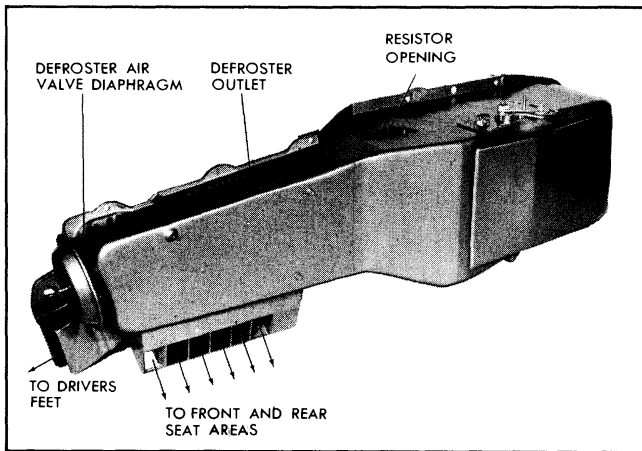

Fig. 12-8 Heater Core and Case Assembly
7. Remove heater core and case assembly (Fig. 12-8).